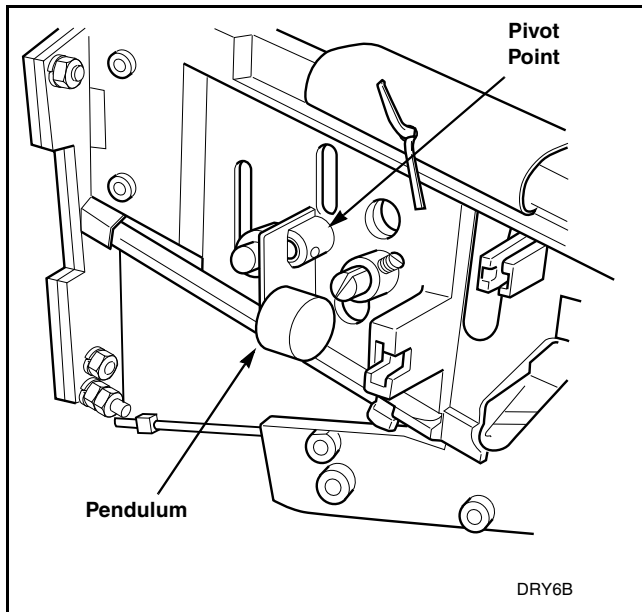

Figure 15
- Check coin return pendulum to verify it swings freely. If pendulum does not swing freely, spray pendulum pivot point with Teflon based lubricant and move pendulum back and forth two to three times. An additional application of Teflon based lubricant may be necessary to ensure that pendulum swings freely. Refer to *Figure 15*.